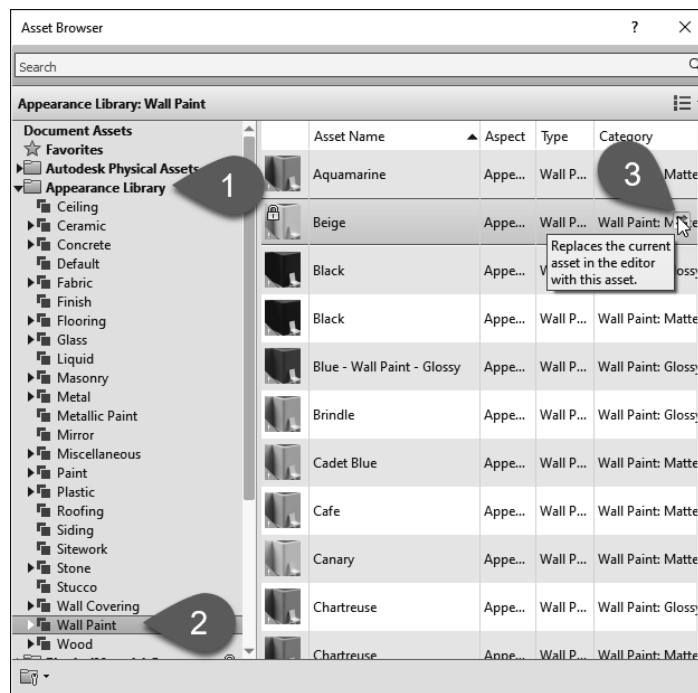

FIGURE 4-3.14 Asset browser, appearance library
The *Asset Browser* has now opened (Figure 4-3.14). Here you need to select a *Wall Paint* asset and overwrite the *Generic* asset in the law office model.
45. In the *Appearance Library* list on the left, select **Wall Paint** (Figure 4-3.14).